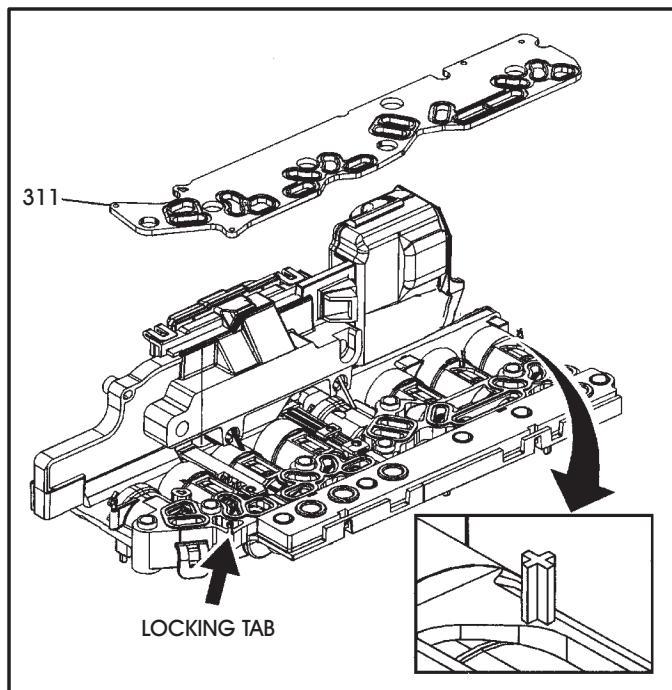

Figure 145
24. Install a **new** filter plate and gasket (311) on Solenoid Body/TCM assembly, as shown in Figure 145, ensuring that it goes over locating dowels and snaps into place.